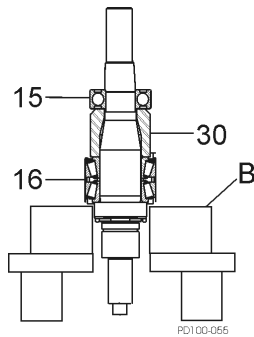

Figure 44 - Remove Bearings From Shaft
10. Use a hydraulic press and V-blocks (Figure 44, item B) to remove the bearings (items 15 and 16) and spacer (item 30).